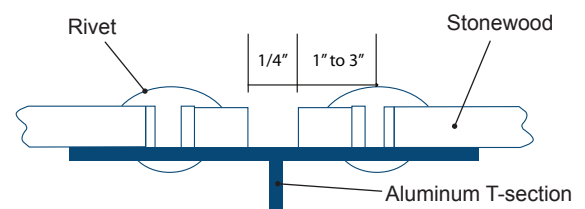
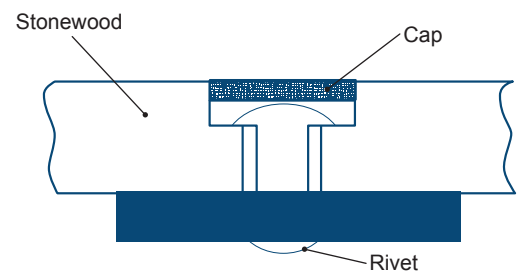

Figure 3 – Edge fastening and minimum $\frac{1}{4}$ " distance between the panel.
Figure 4 – Concealed fixing
SPACE BETWEEN PANEL EDGES - Figure 3
- Two types of attachment methods – exposed (Figure 3) and concealed (Figure 4).
- The distance between the edge mounting points and the panel edges shall be between 1" and 3" (Figure 3 and 5).